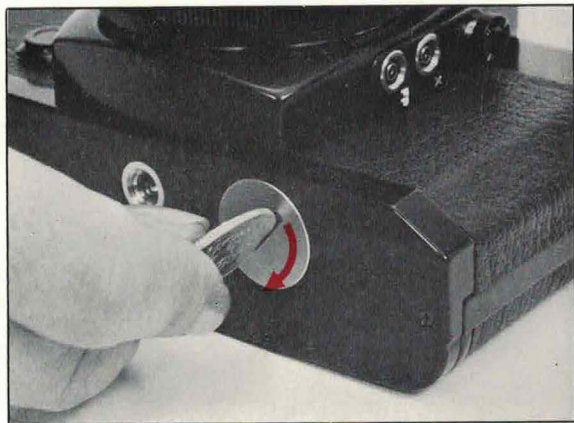

Fig. 2
3. Replace the battery compartment cover by turning fully clockwise (Fig. 2).